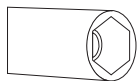

Figure-10
1. Please use driver with special head for removed and install nozzle as (Figure-10)